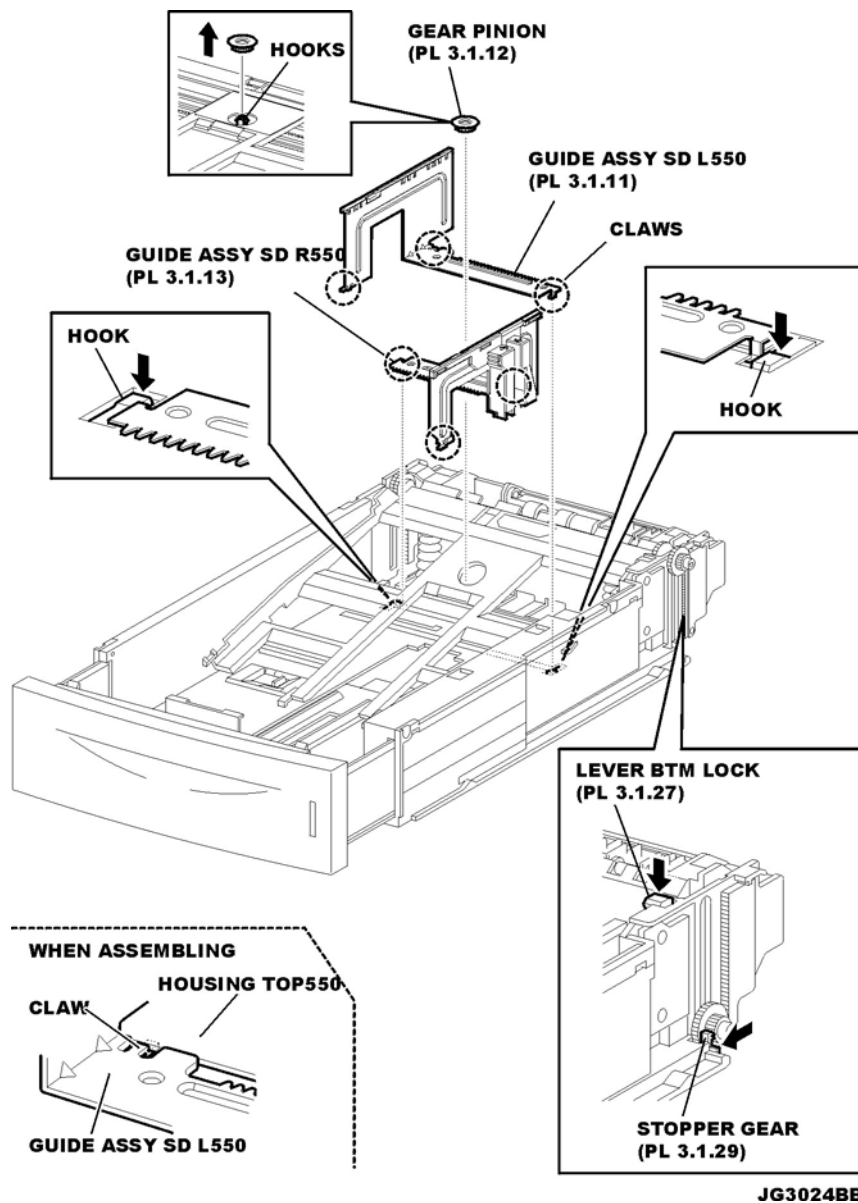

Figure 2. Lever BTM Lock
- 4) While pressing down the lock of the STOPPER GEAR (PL 3.1), release the lock of the LEVER BTM LOCK (PL 3.1) to lift up the PLATE ASSEMBLY BTM (Figure 2).